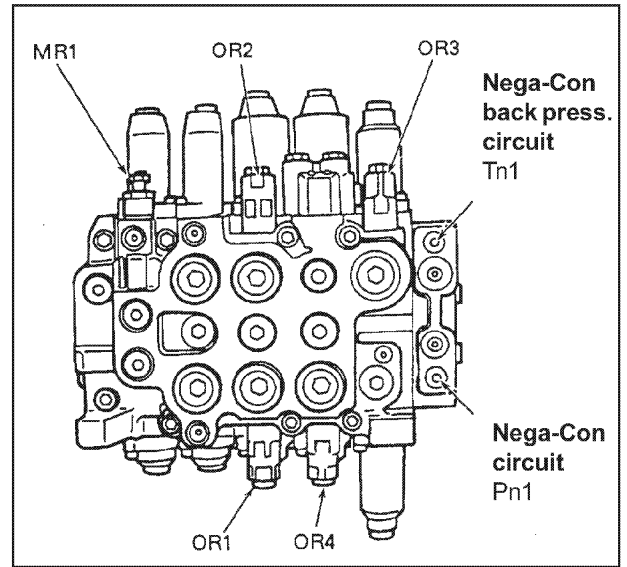

Figure 15.27 *
3. Locate OR2 on Main Control Valve, loosen locknut and adjust OR1 to test bench pressure. See Figure 15.27.